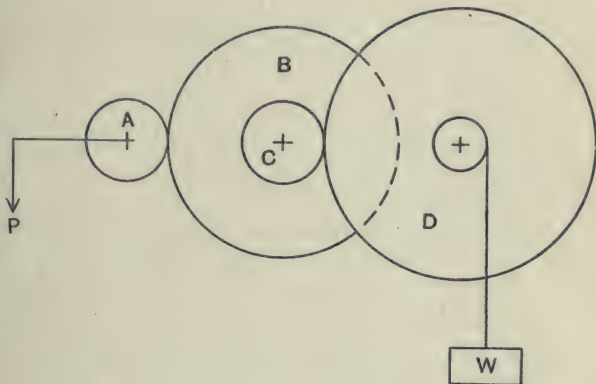

Fig. 133.
**56.** A lifting gear consists of a train of toothed wheels as shewn in fig. 133, the intermediate wheels being keyed to the same axle. The gear is driven by a force  $P$  applied at the end of the handle  $AP$ , which is 18 inches long and is fixed to the wheel  $A$ . The load  $W$  is supported by a rope wound